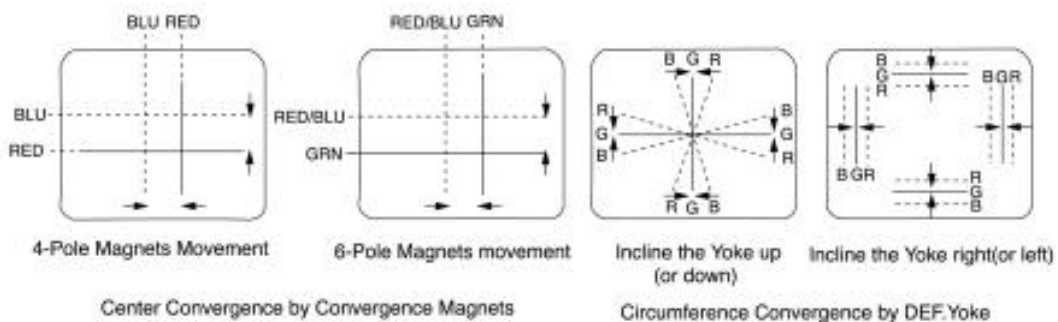

FIG. 4
4. Turn both tabs at the same time keep in their angles constant to superimpose red and blue horizontal lines at the center of the screen. (See figure 4).
3. Tilt the front of the deflection yoke up or down to obtain better convergence in circumference (See figure 4) Push the mounted wedges into the space between picture tube and the yoke to hold the yoke temporarily.
5. Tilt the front of the yoke right or left to obtain better convergence in circumference (See figure 4.)